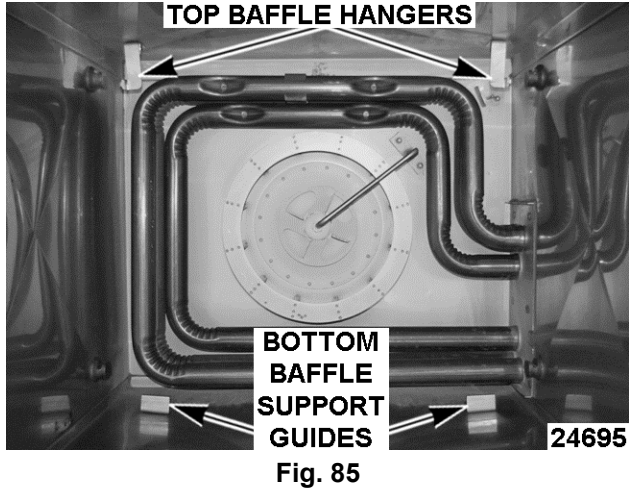

Fig. 85
- Lift baffle (1, Fig. 84) up off bottom baffle support guides (Fig. 85).
- Lift baffle up off top baffle hangers (Fig. 85).